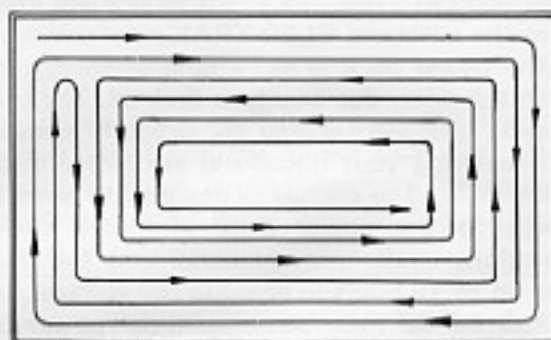

Fig. 13 Mowing Pattern
- Turn to the right when beginning to mow large open areas to discharge clippings away from borders such as sidewalks, fences, driveways, etc. After making two or three passes this way, mow in the opposite direction turning to the left to finish. See Fig. 13.